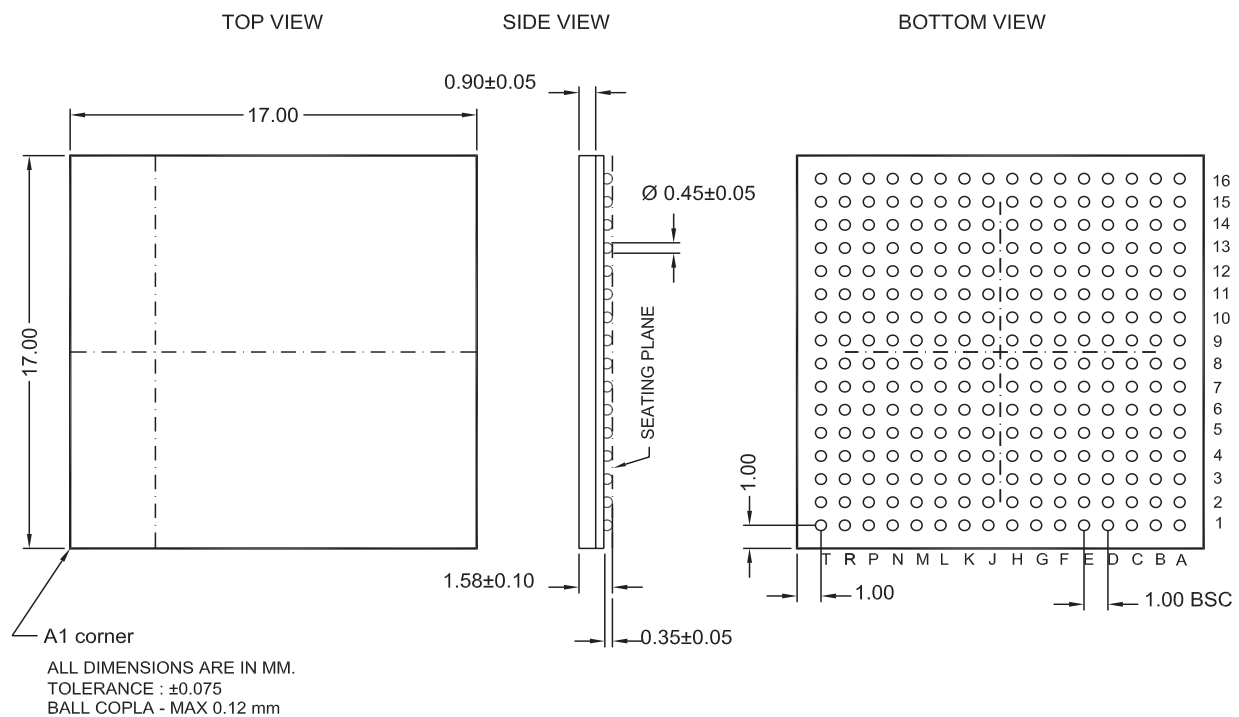

Figure 44. 256-Lead Low-Profile Ball Grid Array (17 x 17 mm, 1.0 mm pitch)
- 256-lead (Figure 44 on page 40)